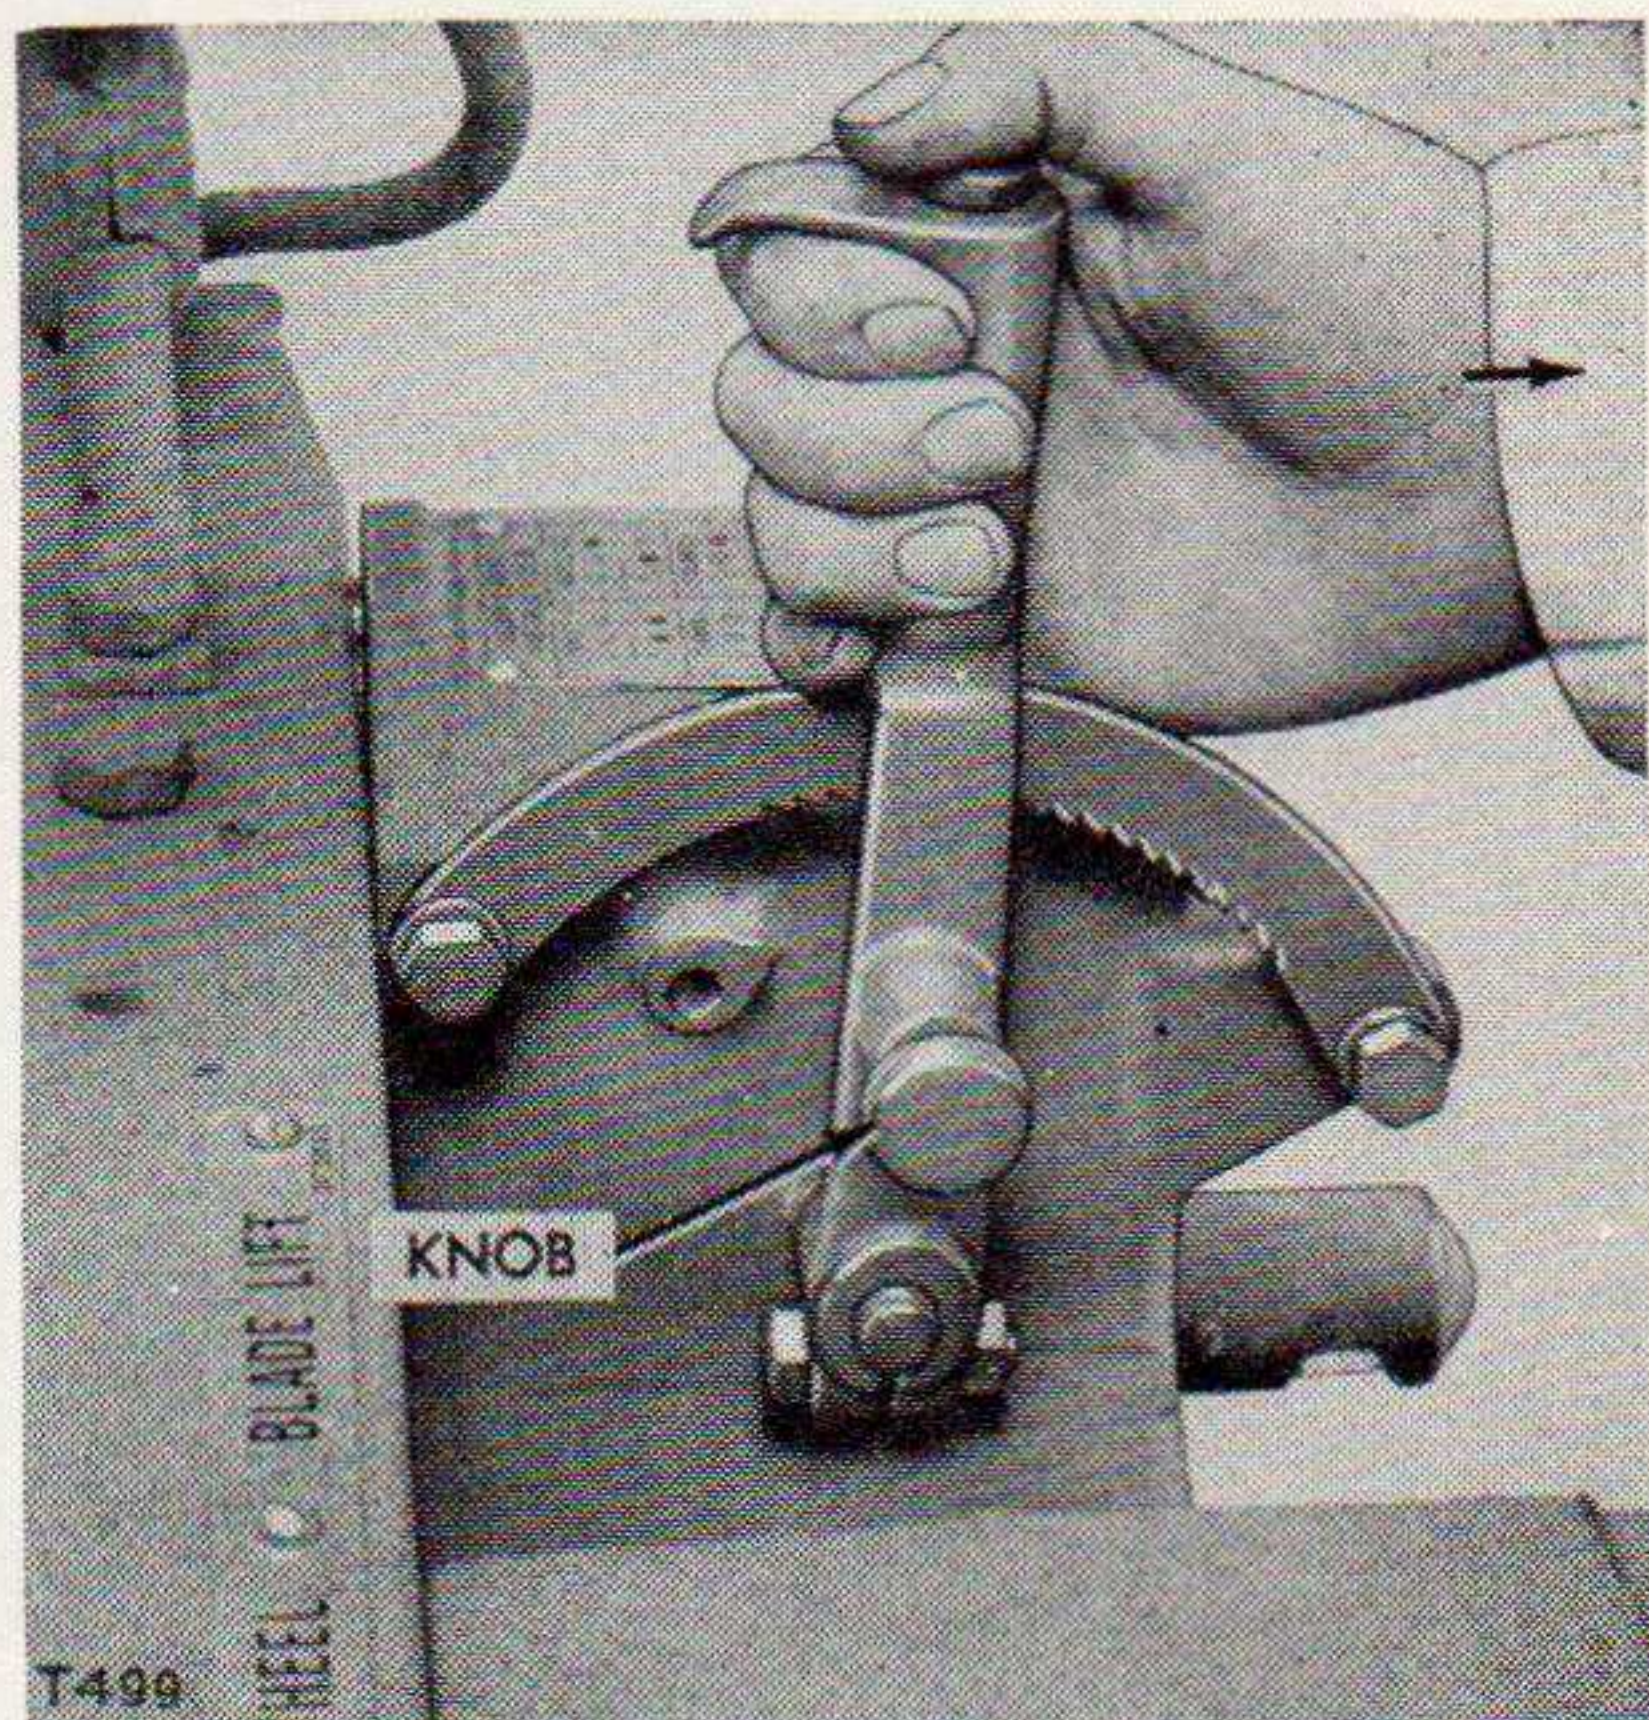

Figure 24. Pulling back the throttle to start the Diesel engine.
- (6) After the starting engine has cranked the Diesel engine against compression until it is sufficiently warm, and the lubricating oil pressure gage indicator is registering in the "Operating Range," unlock the throttle lever by pulling out on the knob and pull the throttle control lever back about half way. (See fig. 24.)
- (7) If the engine does not start refer to the trouble shooting guide in paragraph 42. Cold weather starting directions are given in paragraph 25.
- (8) When the Diesel begins to fire the starter pinion disengages automatically.
- (9) Disengage the starting engine clutch.
- (10) Pull the starting engine throttle control out to the idling position.
- (11) Stop the starting engine by closing the valve under the starting engine fuel tank, allow the engine to burn all the fuel in the carburetor.
- (12) Allow the Diesel engine to idle 5 minutes with the throttle at least half open and 5 minutes at full speed before applying the load.